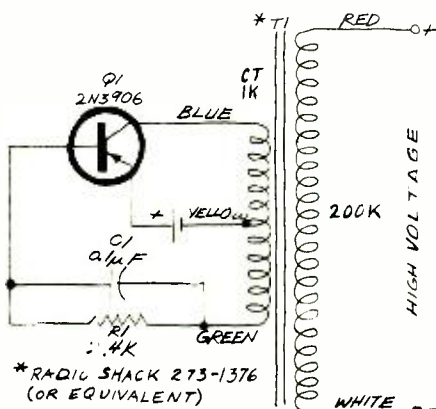
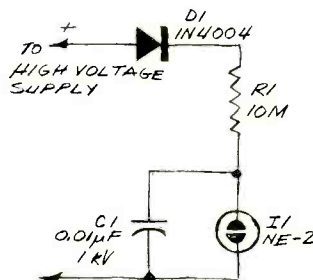
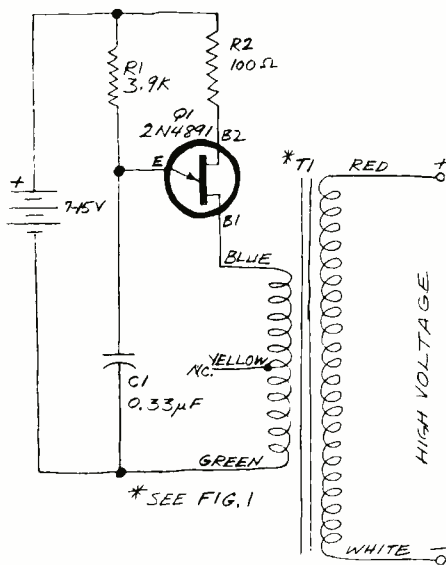

Fig. 1. Simple dc/dc converter.
Fig. 2. Neon relaxation oscillator.
Fig. 3. UJT delay converter.
**Dc-to-dc Converters.** Let's examine two very simple dc-to-dc converters that can be used in low-current, high-voltage applications. The first circuit, shown in Fig. 1, is ultra-simple and illustrates the miniaturization potential of a solid-state high-voltage power supply.
The current output of this circuit is minuscule, but it can easily ionize a neon lamp or power a semiconductor laser power supply. It can also operate the simple neon-lamp relaxation oscillator shown in Fig. 2. This circuit will flash about once a second with the component values shown. In operation,  $C1$  charges through  $R1$  until the breakdown voltage of  $I1$  is reached. When  $I1$  fires,  $C1$  discharges through  $I1$ , and the cycle repeats. Diode  $D1$  keeps  $C1$  from discharging back through the transformer winding.
The current drain of the Fig. 1 circuit connected to the neon flasher in Fig. 2 is fairly low. The circuit draws 12.3 mA from a fresh D cell at 1.5 volts, 8.3 mA from a fully charged 1.2-volt nickel-cadmium cell, and only 6.8 mA from a 1-volt source.
The simple circuit in Fig. 1 is typical of most dc-to-dc converters in that the transformer plays an active role in both the oscillator and HV sections of the circuit. Dc-to-dc converters can also be designed so that the transformer functions strictly as a voltage converter. One possibility is shown in Fig. 3, where a unijunction transistor oscillator is connected to a high-turns-ratio input transformer like the one used in Fig. 1. The oscillator produces a series of fast risetime pulses each time  $C1$  discharges through the emitter-to-B1 junction of  $Q1$ . The pulses are passed through the low-impedance winding of the transformer
Due to the presence of the unijunction transistor, the circuit in Fig. 3 requires a higher operating voltage (7 to 15 volts) than the circuit in Fig. 1. But at 10 volts the circuit will operate the neon flasher in Fig. 2 with a current drain of only 0.5 mA. This corresponds to a total power consumption of about 5 mW versus about 18 mW for the previous circuit.